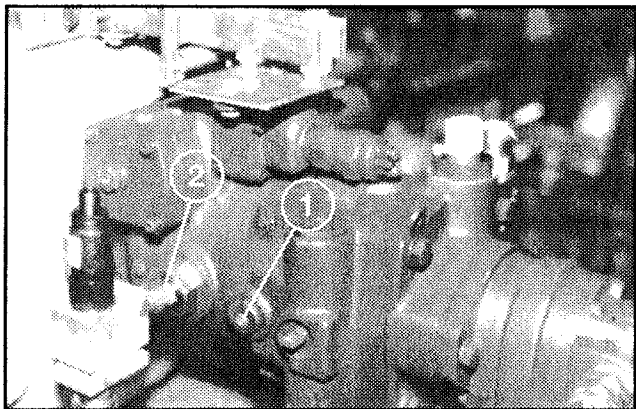

Figure 34
TEST PORTS (Fig. 34,35)
1. Auxiliary Port is located on left side of piston pump and is used to measure the charge pressure of the transmission. (Fig. 34)
2. Loosen and remove the Relief Valve and Swivel Assembly from the Adapter Fitting in left side of Piston Pump. (Fig. 34)
3. Connect the Pressure Gauge at Adaptor to check case drain pressure. (Fig. 34)